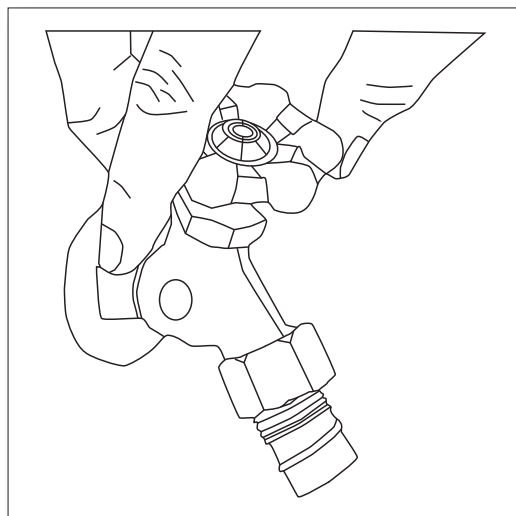

Fig. 17
***!Turn on the water supply at the faucet!* (Fig. 17)**